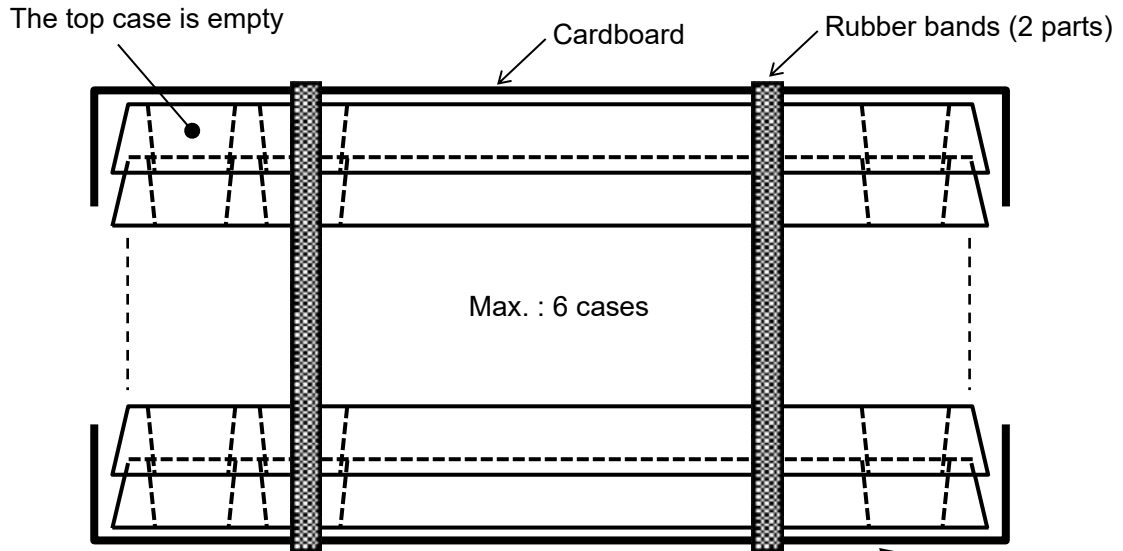

Fig.2
- (1) Put PD3 (Max. : 100 pcs.) in the packing case.
- (2) Pile up 6 cases (the top case is empty), cover top and bottom with the cardboard and fix 2 parts with rubber bands. (Refer to Fig.2)